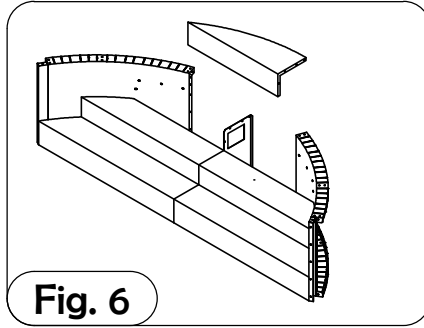

Fig. 6
7. Bolt right top center step to right radius stair side panel and to right center step. Use stair brace to support step (Fig. 6).